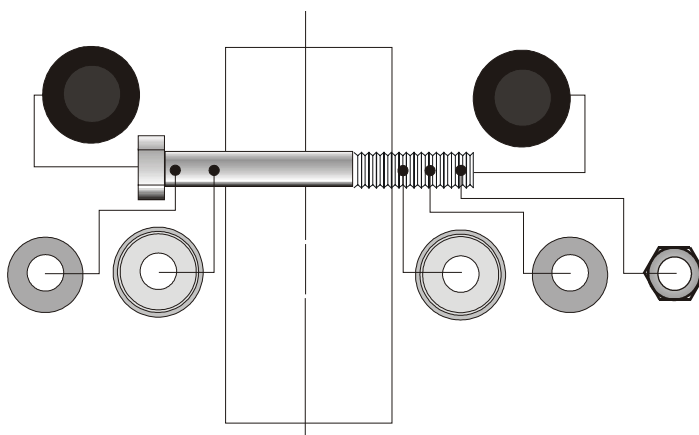

**Figure 3. Set the weight stack cubes.**
1. Place the two weight “cubes” in their “final resting spots.” The cubes will be approximately 11’4” apart as shown in Figure 3.
The part shown in Hardware Figure 3 is the 9/16" cable jam nut that's used to secure the cables to the weight stacks.
**Hardware Figure 3. Cable jam nut.**